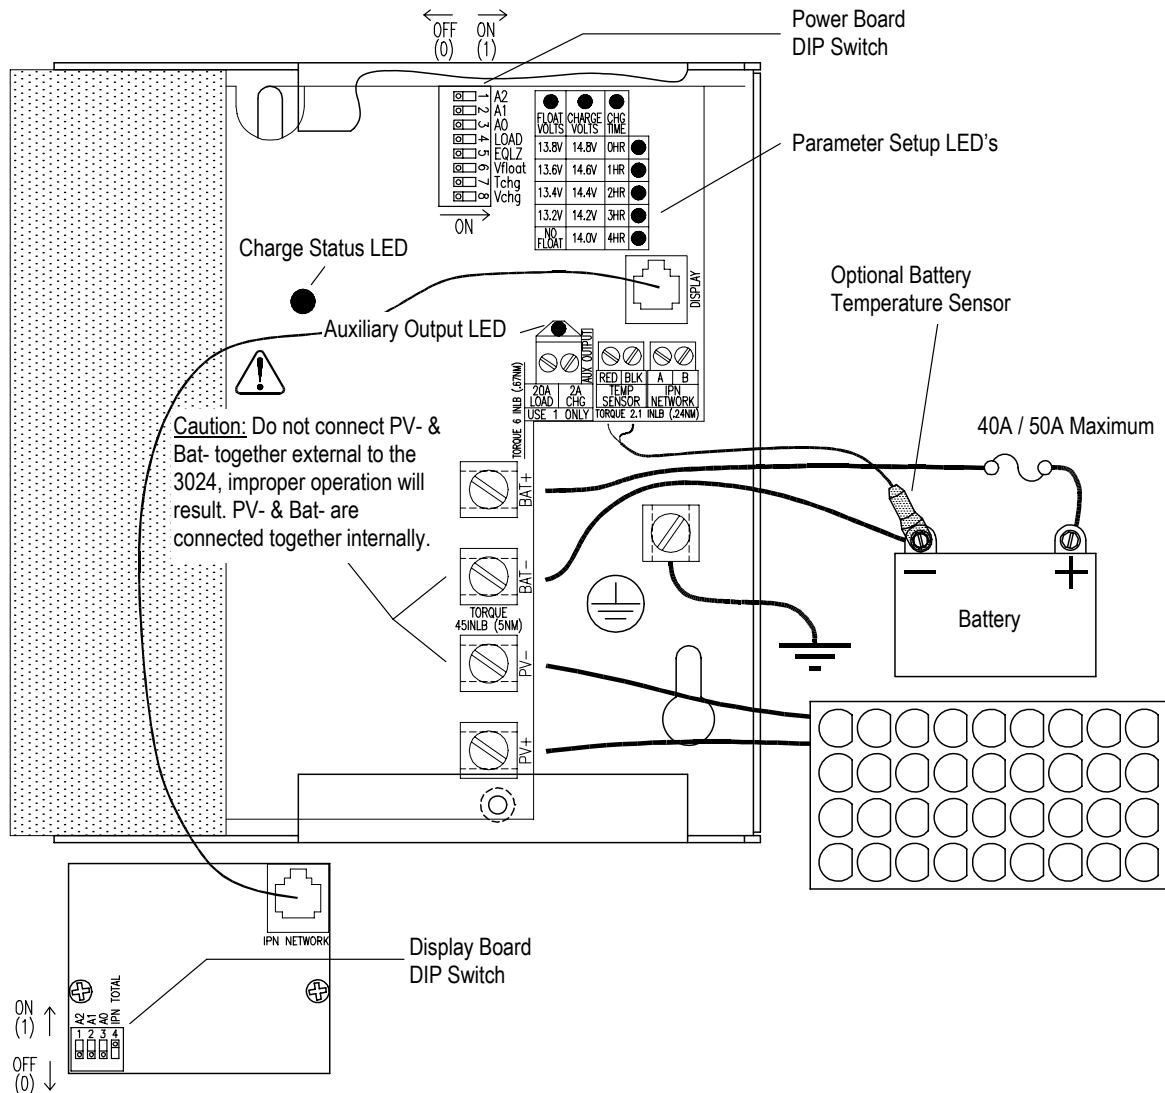

FIGURE 3
➤ **WARNING:** Read, understand and follow the Important Safety Instructions in the beginning of this manual before proceeding. This unit must be installed and wired in accordance with National Electrical Code, ANSI/NFPA 70. Over current protection must be provided externally. To reduce the risk of fire, connect to a circuit provided with 40A maximum branch-circuit over current protection (50A with 12V battery and 12V PV modules) in accordance with National Electrical Code, ANSI/NFPA 70. Do not connect a PV array capable of delivering greater than 24A of short circuit current I_{sc} at STC (32A with 12V battery and 12V PV modules). Do not connect BAT- and PV- together external to the unit. The unit is not provided with a GFDI (ground-fault detector/interrupter) device and must be used with an external GFDI device as required by Article 690 of NEC for the installation location. To reduce risk of electric shock, remove all sources of power before installing or servicing. Figures 3, 4 and 5 show generalized connections only and are not intended to show all wiring, circuit protection and safety requirements for a photovoltaic electrical system.
➤ Setup parameters are divided into two categories, **Basic** and **Advanced**. Basic parameters can be configured with the 3024 alone within limited steps and ranges as shown in Figure 3. Advanced parameters require the IPN-ProRemote to access. The IPN-ProRemote also allows basic settings to be configured in smaller steps and over wider ranges. All setup parameters are retained if power is lost, or the IPN-ProRemote is used as a setup tool only and removed.
2. Turn ALL 8 power board DIP switches shown in Figure 3 ON.
Acceptance Charge Voltage, Float Charge Voltage and Charge Time setpoints can be viewed or changed using the parameter setup LED's and DIP switch shown in Figure 3. Operate only one switch at a time. To view the present setting turn the appropriate DIP switch ON momentarily (V_{CHG} #8, V_{FLOT} #6 or T_{CHG} #7). For a 24V battery the actual voltage setpoints are doubled.
The auxiliary output can serve one of three functions; a 2A auxiliary battery charger, a 20A load controller with Low Voltage Disconnect (LVD), or a 20A variable Dusk-to-Dawn lighting load controller. The Charge/Load function is selected by DIP switch #4 shown in Figure 3. The IPN-ProRemote is required to adjust LVD thresholds or enable Dusk-to-Dawn lighting control. Auxiliary outputs in a multi-controller system will function normally, but only the auxiliary output in the master can be configured or monitored using the IPN-ProRemote. The auxiliary output "Load" LED will illuminate whenever the auxiliary output is ON.